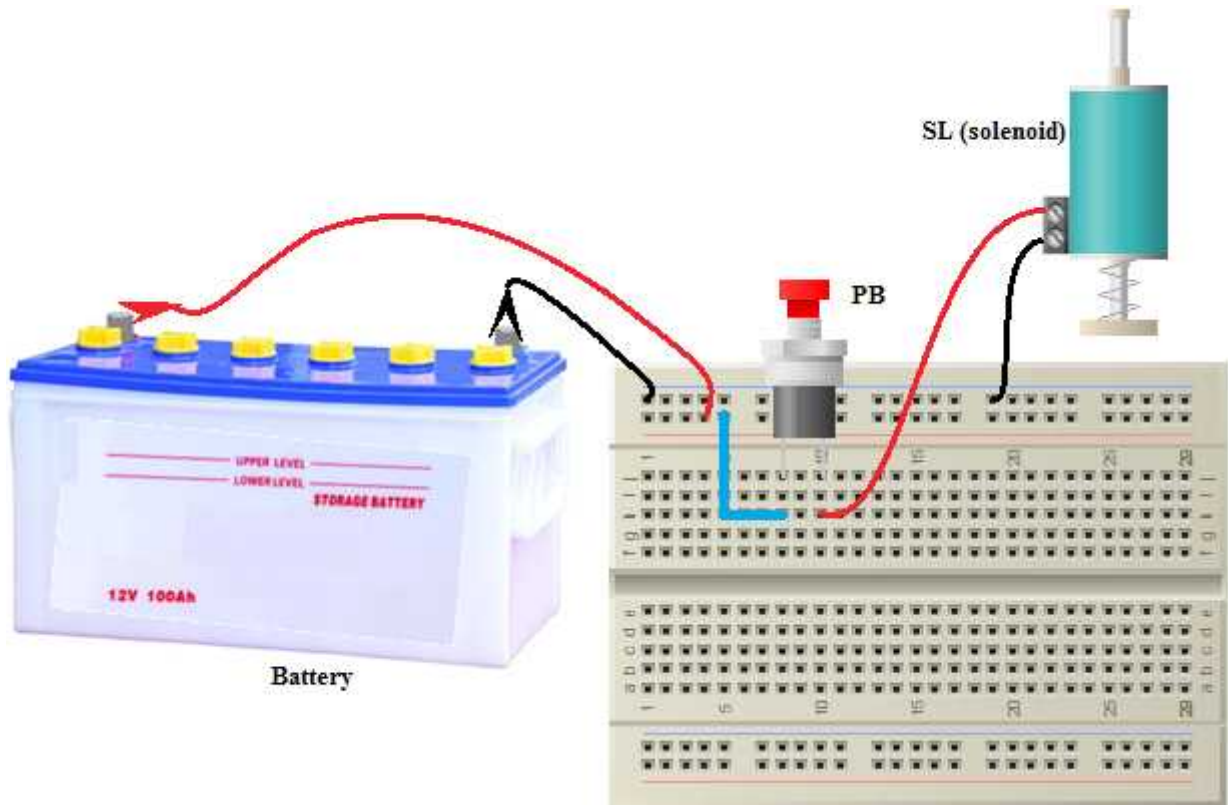

Figure 4-58: Circuit connection for energizing and de-energizing solenoid
1. Connect the circuit as illustrated in figure 4-58.